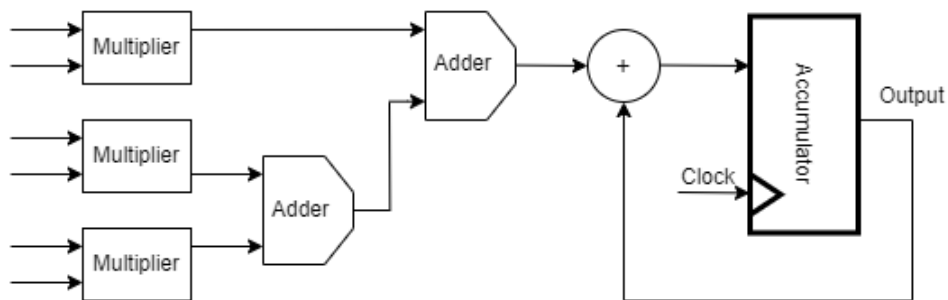

Figure 2: MAC Unit with 3 Parallel Multiplier
- Multiply and accumulate units (**MAC**) perform convolution operations by computing products of data and weights and adds these products to an accumulator. The structure of a MAC unit is shown in **Figure 2**. This unit performs 3x3 sum of products operation in three cycles.